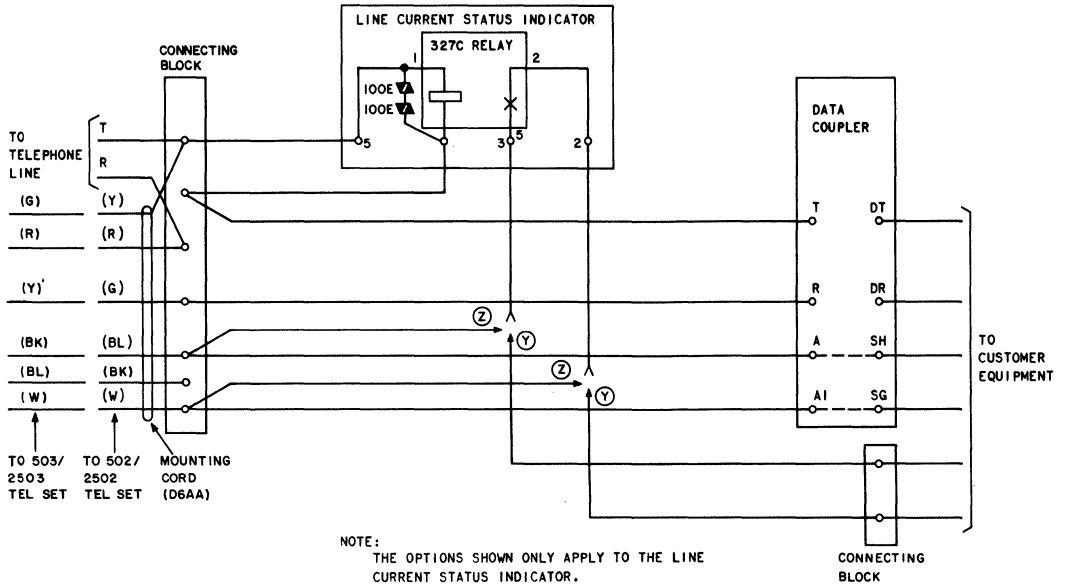

Fig. 11—Line Control Status Indicator Connection Diagram
3.08 The LCSI (Fig. 11) must be made locally and consists of a 317A-type dry reed relay and two varistors in a 74B-49 connecting block measuring 2.75 inches wide, 4 inches long, and 1.6 inches high. The relay is in series with the coupler and gives a contact closure at the customer interface when at least 20 mA of line current is flowing through the relay and coupler. The two varistors are used to provide a low-impedance transmission path to the coupler.
- (3) Apply adhesive (Eastman 910 or equivalent) in the area to be occupied by the 327C relay.
- (4) Place relay on base plate, topside down.
- (5) Remove and discard the lower screws from terminal strip eyelets in positions 2, 3, 4, and 5.
- (6) Wire the unit in accordance with Fig. 11.